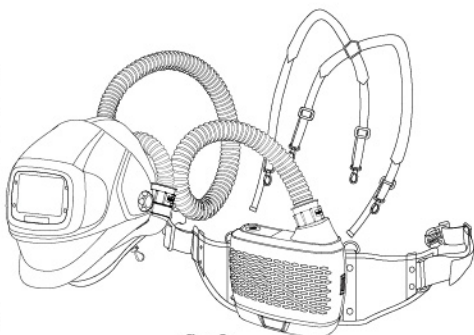
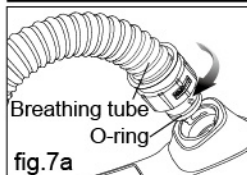
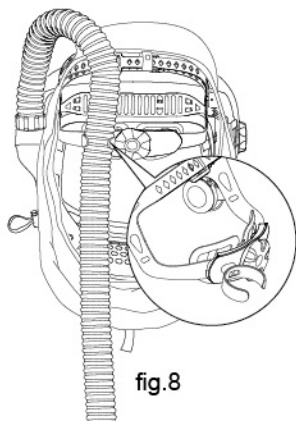

fig.6
fig.7a
fig.8
- Always inspect the PAPR end of the breathing tube to confirm the rubber O-ring is in place, see fig.7a. Replace if missing or damaged.
Insert the two prongs on the breathing tube into the blower unit and helmet air duct (See fig.6), twist 1/4 to the anti- "open" direction (See fig.7a / 7c), then clip the breathing tube into holder on the back cover of the headgear to lock into place (See fig.8).